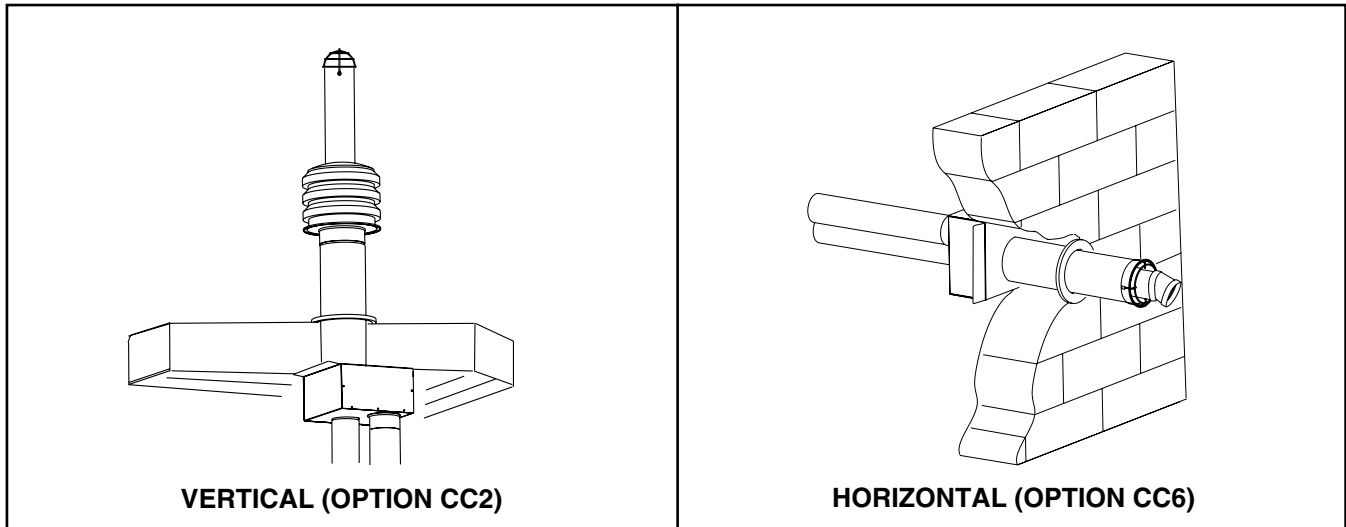

**Figure 9. Concentric Adapter Box Dimensions and Connections**
- The concentric adapter box is shown Figure 8. Dimensions and connections are shown in Figure 9.